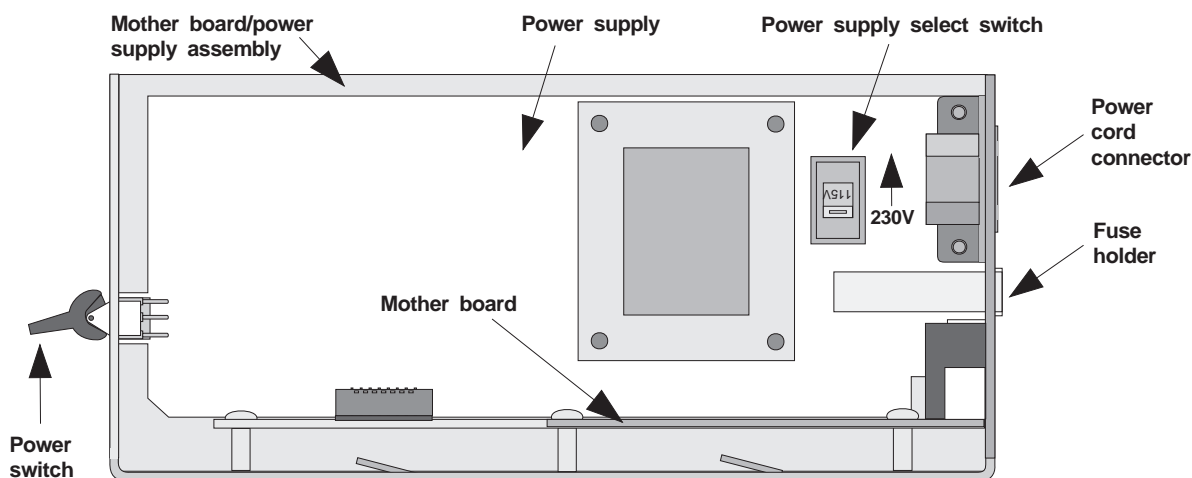

Figure 3-12 Side View of Mother Board/Power Supply Assembly
2. Turn the main power switch off (Figure 3-12).
7. Switch the power supply select switch to the up position. The switch will show 240VAC (Figure 3-12).
12. Turn the main power switch to the “on” position (Figure 3-12).